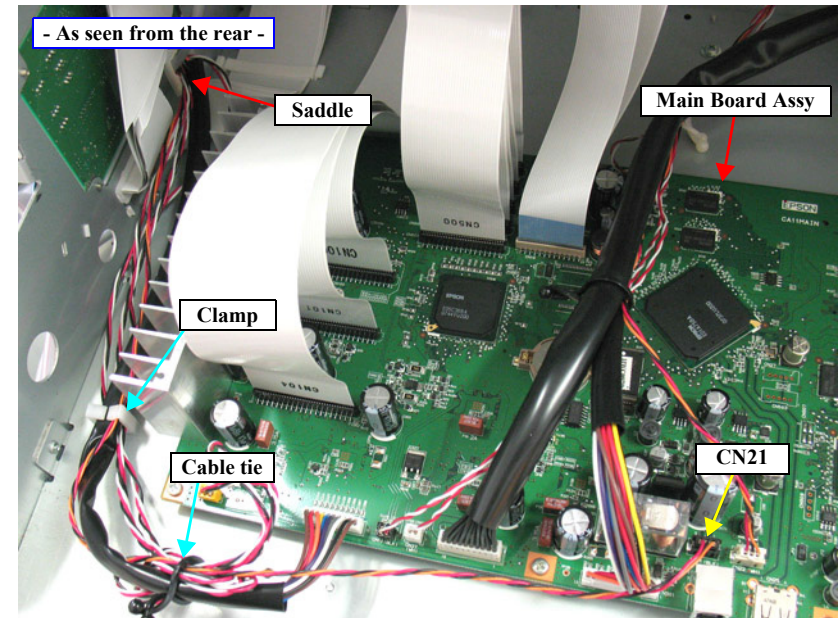

Figure 4-33. Releasing the harnesses (rear)
9. Release the cable from the cable tie, clamp and the saddle. *See Figure 4-33.*